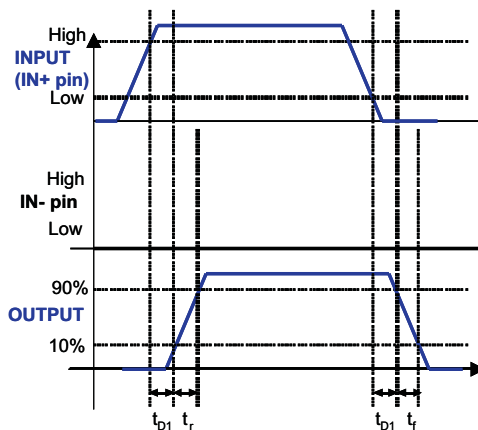
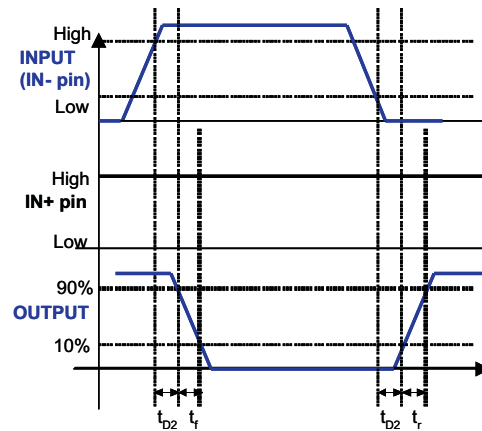

Figure 1. Non-Inverting Configuration (PWM Input To IN+ pin (IN- Pin Tied To GND), Output Represents OUTH And OUTL Pins Tied Together In The UCC27511)
Figure 2. Inverting Configuration (PWM Input to IN- Pin (IN+ Pin Tied To VDD), Output Represents OUTH And OUTL Pins Tied Together In The UCC27511)
(3) See timing diagrams in Figure 1, Figure 2, Figure 3 and Figure 4.